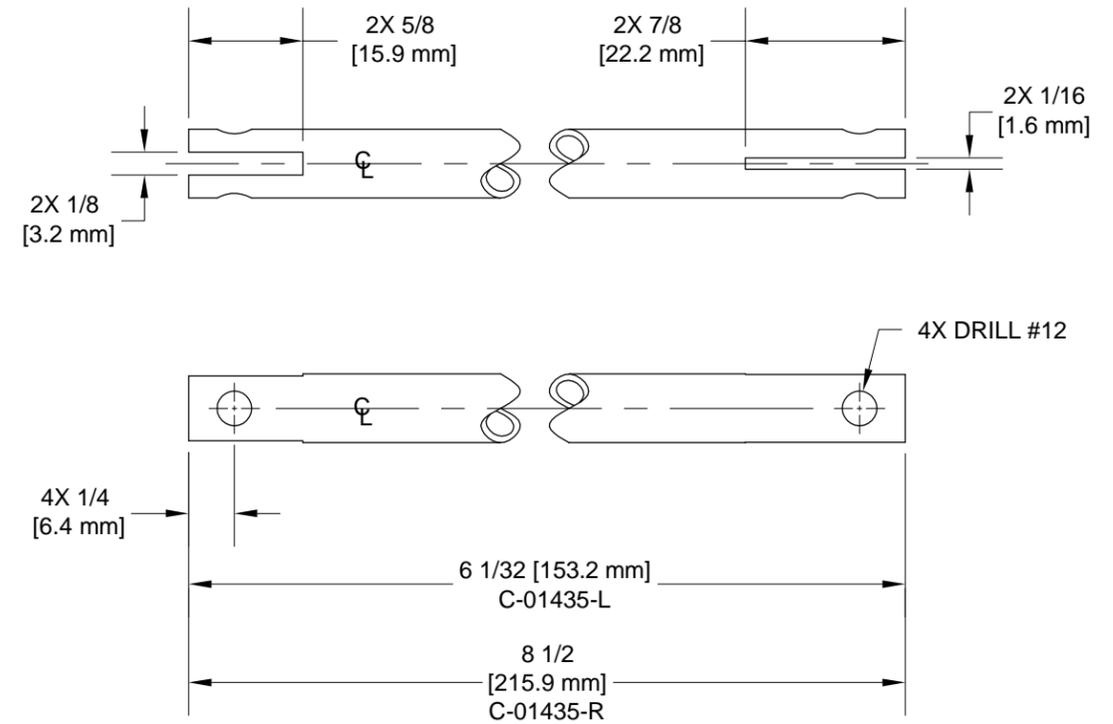

FIGURE 2: LEFT & RIGHT PUSHROD FABRICATION
Step 7: Fabricate the C-01435-L & -R Canopy Release Pushrods from raw material AT6-058X3/8 Tube. See Figure 2.